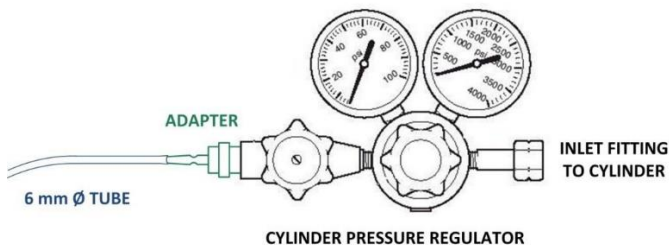

Figure 1
- Gas cylinders** - Close the cylinder's main valve. Take a 6 mm external diameter tube and proceed connecting it to the cylinder pressure regulator. For a safe connection, a specific rubber holder adapter is usually required (Fig. 1). This procedure must be repeated for each gas cylinder in use.